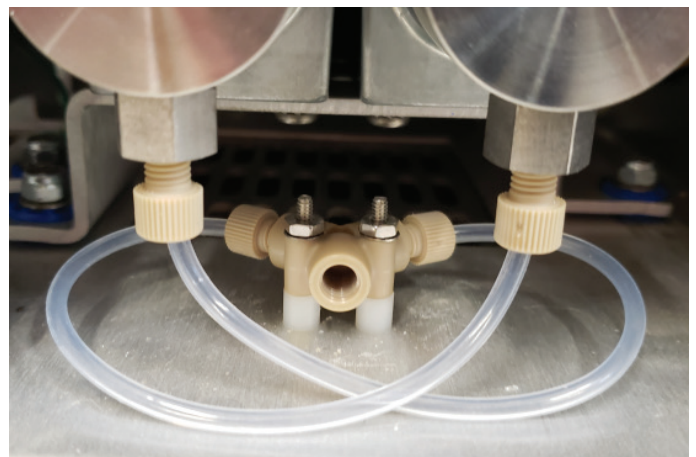

Figure 16: HP125 replacement tubing and Y-connector
4. Install both sets of HP125 Y-connector and tubing on the replacement pump assembly (Figure 16).